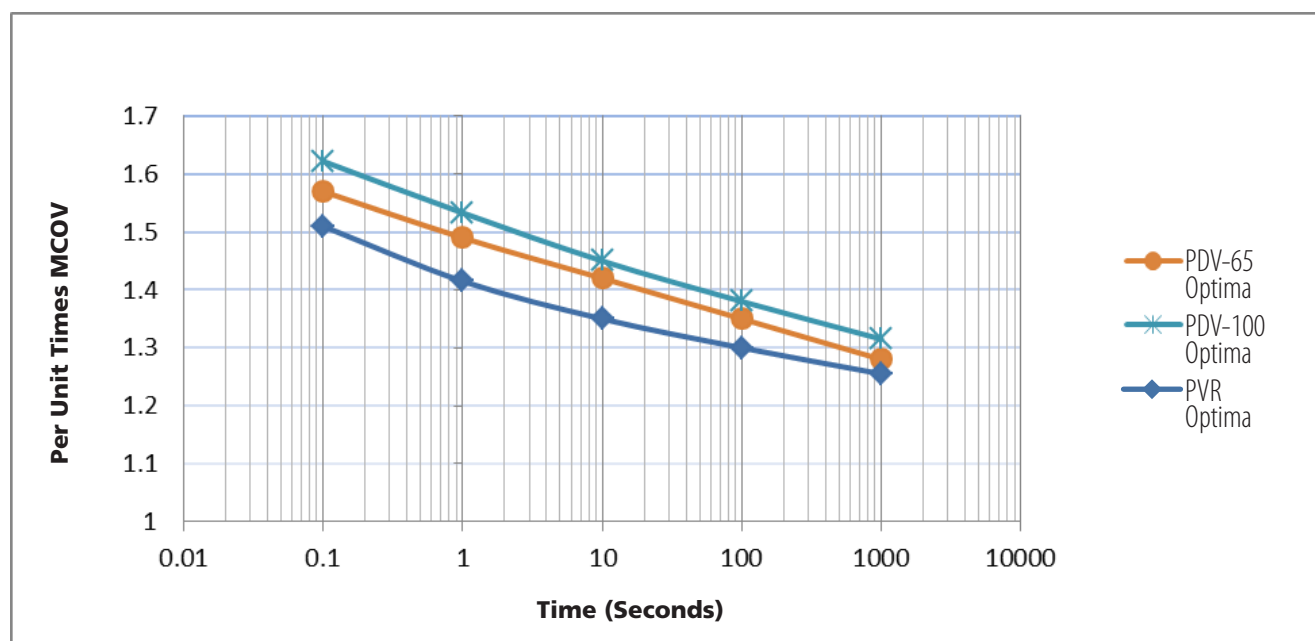

Figure. 5: IEEE TOV Capability with no bracket, No Prior Duty
6. Power Frequency Voltage versus Time Characteristics: Power systems are not ideal and periodically have temporary over voltages (TOV) caused by a variety of reasons. During TOV instances on the system, the arrester can see elevated voltages and therefore higher 60Hz current through the unit. The magnitude and duration of the system-generated TOV that the arrester can withstand is best expressed graphically. The three curves in Figure 5 show the TOV capability versus time for the Hubbell arresters in this catalog. The Optima utilizes a capacitance-based isolator which improves the TOV capability while increasing the reliability of disconnector function. The Optima technology results in a family of TOV curves that are a function of the MCOV of the arrester.